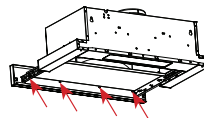

Fig. 4
1. Unscrew the 80mm fascia rail which is already installed on the rangehood (Fig. 4)